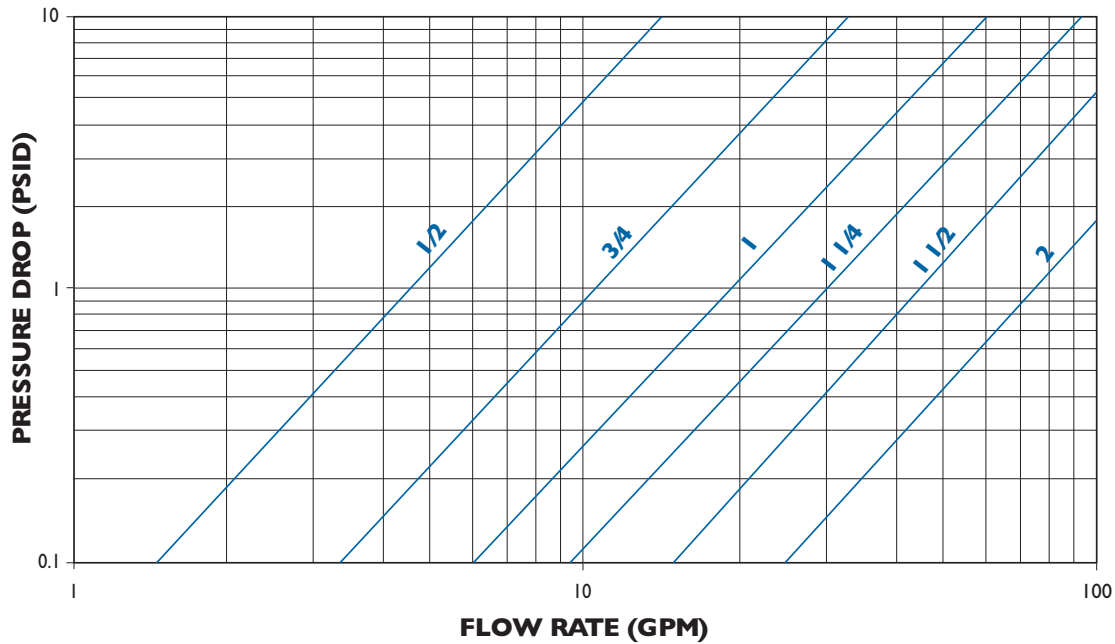

FIGURE 1
*Multiply values obtained from figure 1 thru 2 by the appropriate values shown below
- A) Using figure 1 the pressure drop is determined to be 0.9 psig with HART's standard screen.
- Using figures 1 or 2 determine the pressure drop (P1) through the strainer with water flow and standard screens.
- Using chart #2 multiply P3 by the appropriate Component Factor (CF) to get P4.
- Multiply P4 by the appropriate Body Loss Factor (BF) in chart #3 to get P6.
* Multiply values obtained from figures 1 thru 2 and charts #1, #2 and #3 (if used) by the appropriate values shown below